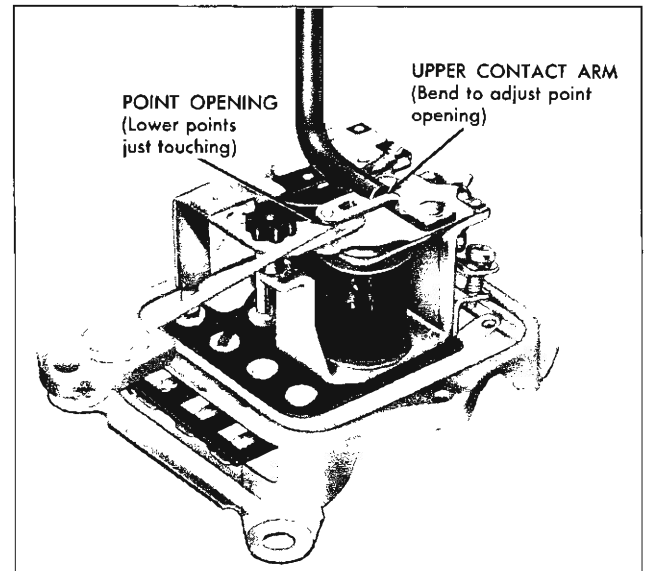

Fig. 32—Checking Voltage Regulator Point Opening
1. **Point Opening:** With the lower contacts touching, measure the point opening between the upper contacts as shown in Figure 32. Adjust by bending the upper contact arm.